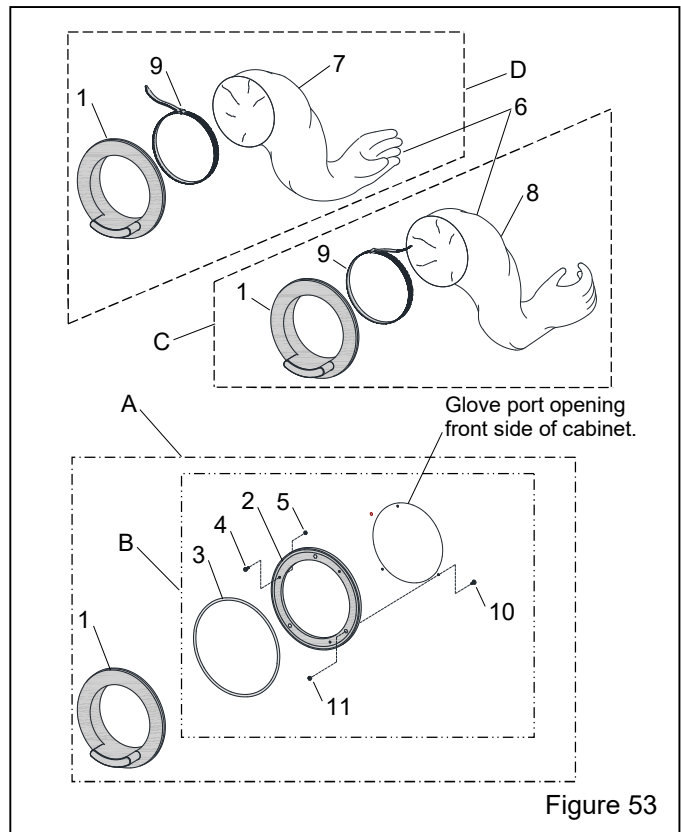

Figure 53
10.6 Gloves and Glove Mounts – Figure 53